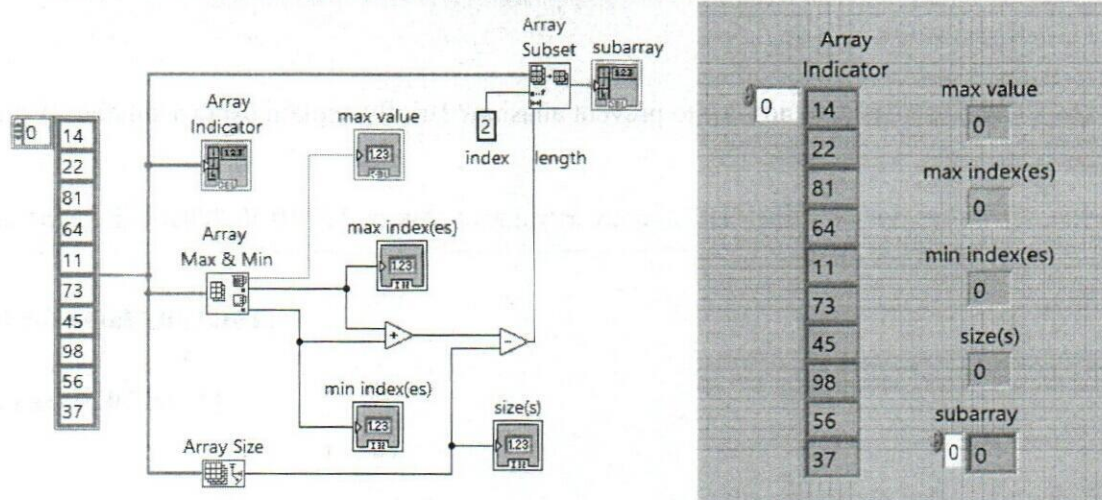

Figure Q2.2
- iv. Refer to the block diagram and front panel in Figure Q2.2, and identify and state the following values. (5 marks)